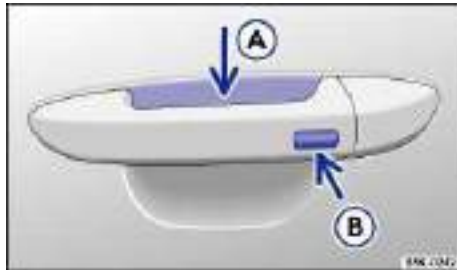

Fig. 25 Keyless Access system: Sensor for unlocking A on the inside of the front door handles. Sensor for locking B on the outside of the front door handles.
All you have to do is touch a sensor surface on one of the front outside door handles ⇒ fig. 25 or push the Volkswagen emblem on the rear hatch ⇒ *Opening the rear hatch* when a valid remote control vehicle key is within range ⇒ ⓘ.
- Keyless Entry: Unlocking the vehicle with the sensor surfaces on the outside door handles of the driver or front passenger door ⇒ fig. 25 \(A\) or by using the Volkswagen emblem on the rear hatch.
To use the convenience closing feature to close all power windows and the sunroof, hold your finger on the lock sensor surface on the outside of the door handle ⇒ fig. 25 \(B\) for a few seconds until the windows and sunroof close.